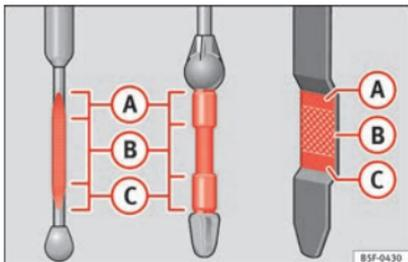

Fig. 248 Engine oil dipstick.
- Then pull it out once more and check the oil level » **Fig. 248**. Top up with engine oil if necessary.